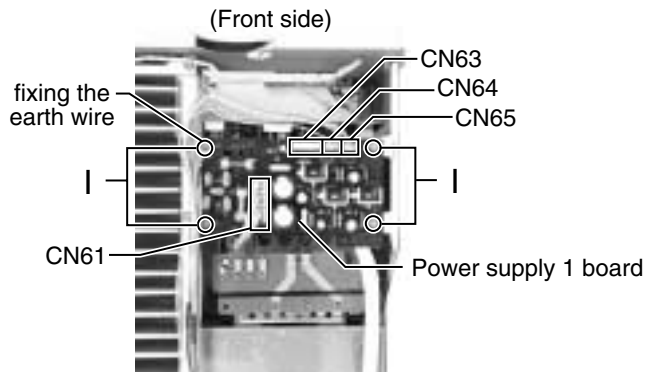

Fig.16
(See Fig.16)
1. Disconnect the harness from the connector CN65 on the power supply 1 board (see fig.16).